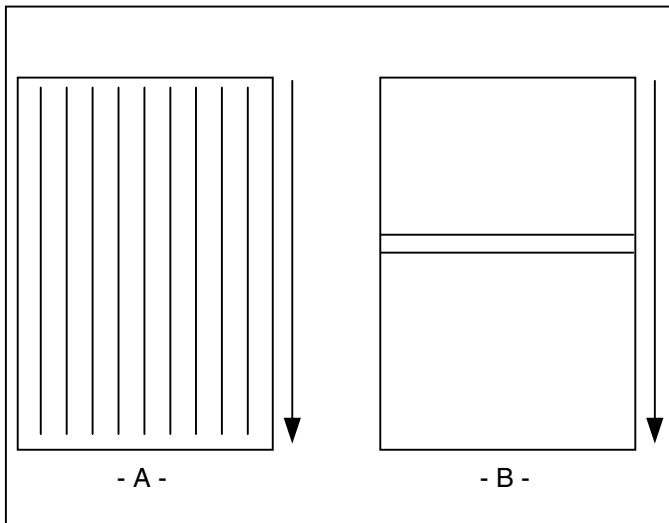

Fig. 46
3. Straight waves in output (Figure 46 A).
4. Indent waves in output after pull rollers (Figure 46 B).